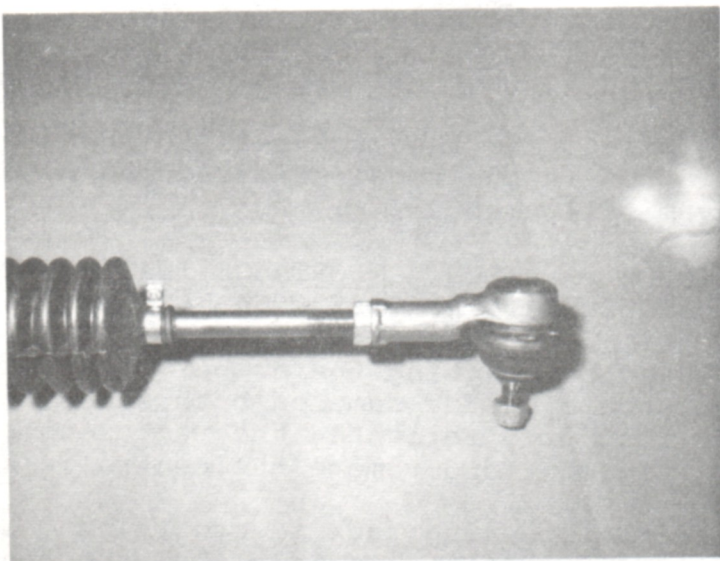

FIG. 2
2. Slacken the lock nut on both tie rods. (See Fig. 2).